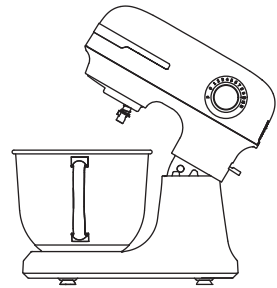

Fig.4
- 2.Place the mixing bowl (10) on the device plate, and turn the mixing bowl unit in clockwise direction until it is fixed. Fig.4